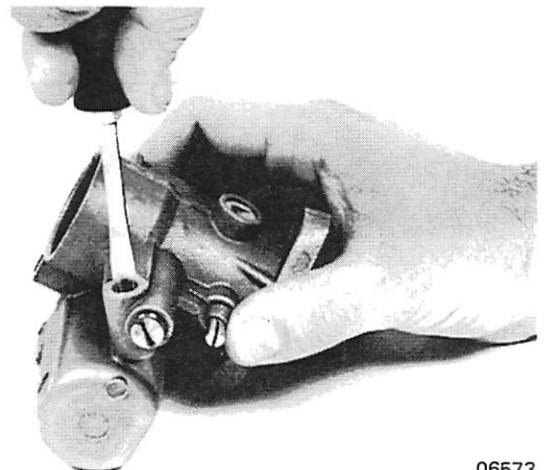

Figure 4. Removing Fixed Jet
2. Remove fixed jet and gasket (where applicable) with Fixed Jet Screwdriver (C-91-29795) or standard screwdriver of exact size. (Figure 4)